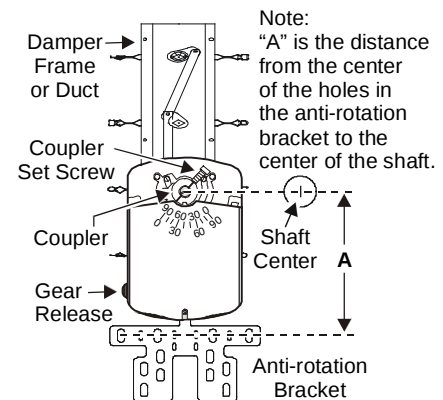
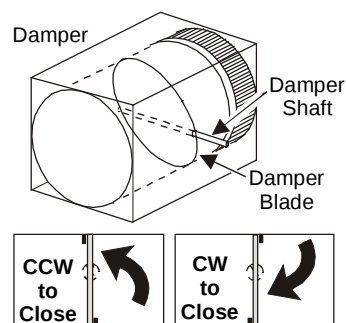

Figure 1: Mounting Positions
Figure 4: Damper Rotation
1. Press and hold the gear release lever, and rotate the coupler to the 0 or 90° position. Release the gear release lever. (See Figure 1.)
5. Refer to the “A” Dimensions in Table 1 and Figure 1 to position the anti-rotation bracket tab midway in the actuator slot.
7. Secure the coupler to the shaft using a 5/16 in. (8 mm) square socket or 3/8 in. (10 mm) 12-point socket to tighten the coupler set screw against the damper shaft. (See Figure 1.)
1. Press and hold the gear release lever shown in Figure 1, and rotate the actuator coupler and damper shaft to the fully closed position as shown in Figure 4.